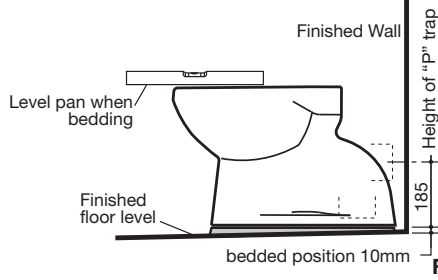

Fig. 3
- 4- Position pan and connect with pan connector and level pan into bedding mixture, so that the back of the foot of the pan is approximately 10mm above the finished floor as detailed in Fig 3. It is recommended that wedges are used to support the foot of the pan during the positioning.